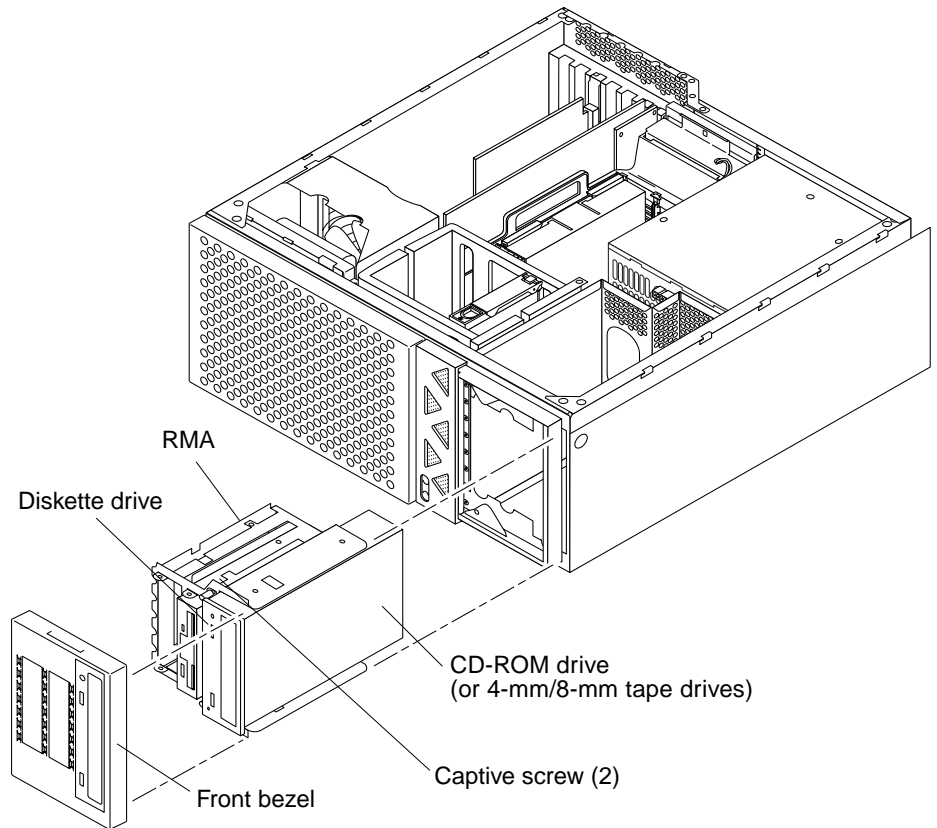
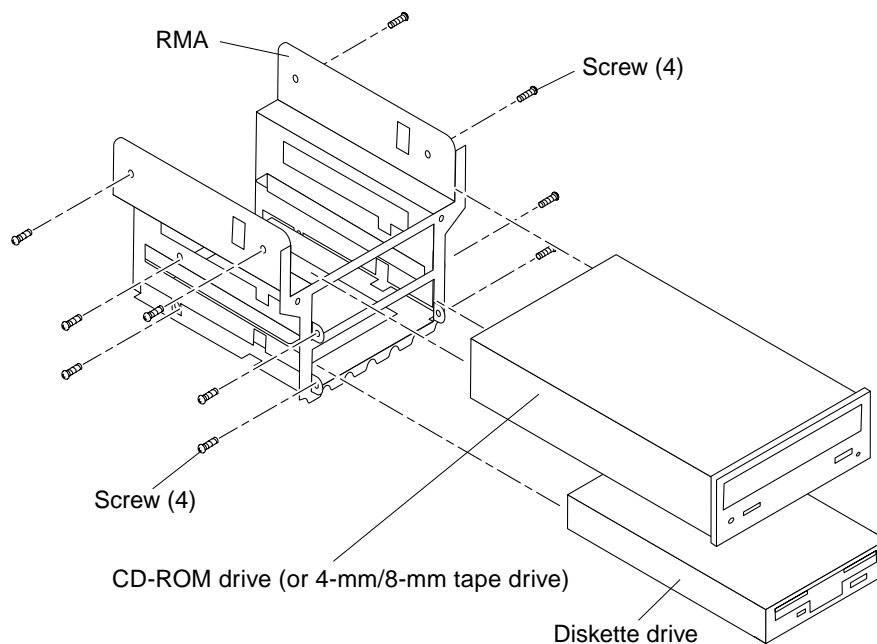

FIGURE 9-2 Removing and Replacing the RMA Drive (Part 1 of 2)
FIGURE 9-3 Removing and Replacing the RMA Drive (Part 2 of 2)
To remove and replace a removable media assembly (RMA) drive, it is necessary to remove and replace the RMA. To remove and replace the RMA and a RMA drive, refer to FIGURE 9-2 and FIGURE 9-3 and proceed as follows.
4. **Remove the RMA as follows (FIGURE 9-2):**
1. Position the RMA on a flat surface so that the CD-ROM drive or tape drive is flat (FIGURE 9-3).
1. **Position the CD-ROM drive or tape drive into the RMA (FIGURE 9-3).**
1. **Position the RMA on a flat surface so that the diskette drive is flat (FIGURE 9-3).**
1. **Position the diskette drive into the RMA (FIGURE 9-3).**
1. Replace the RMA as follows (FIGURE 9-2):